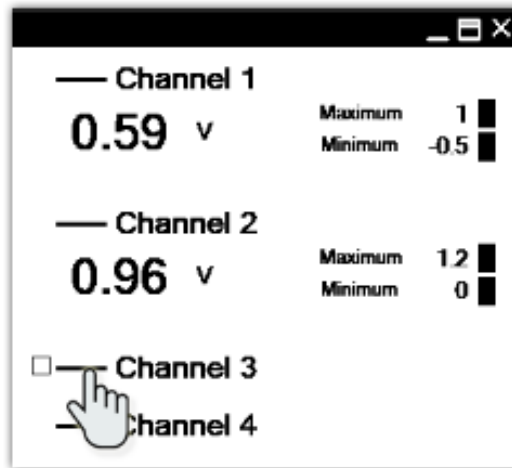

Figure 3: Check-box appeared with hovering mouse.
PhysLogger supports up to four (4) channels. One of the channels could be on I^2C protocol. All have similar controls. They all have very similar controls. To activate any channel, hover the mouse over the **line** before the channel label. A check-box will appear (see Figure 3). Click on that check-box to activate the corresponding channel. The channels can be accessed by hovering the mouse over the live-plot of that channel and right clicking on it. The following options for each channel will be exposed upon right clicking:
Channels are labeled as **Channel 1**, **Channel 2** ... by default. To relabel any channel name, click on it's label (see Figure 3) and type in any desired name.